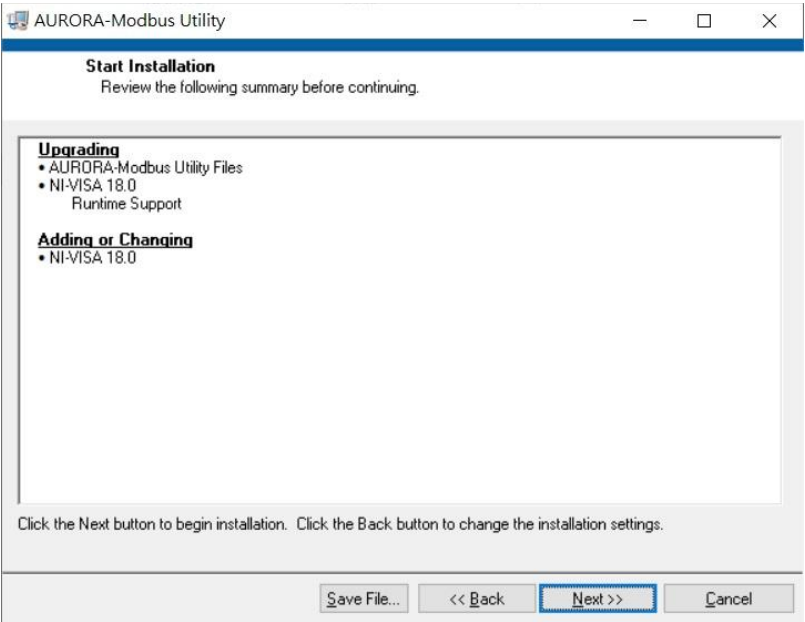

Figure1-9 Aurora Modbus Utility Select Next
Step 4: Confirm installation items and click 'Next' to begin installation (Figure1-9)